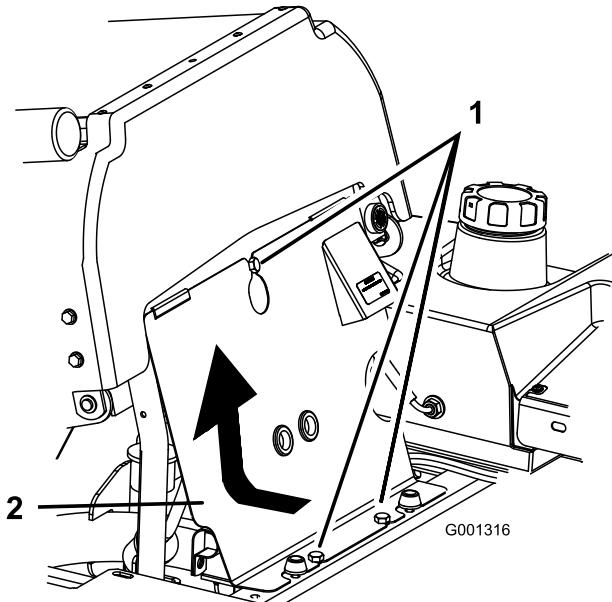

Figure 32
1. Tilt the seat forward, loosen the bolts and remove the front engine panel (Figure 32).